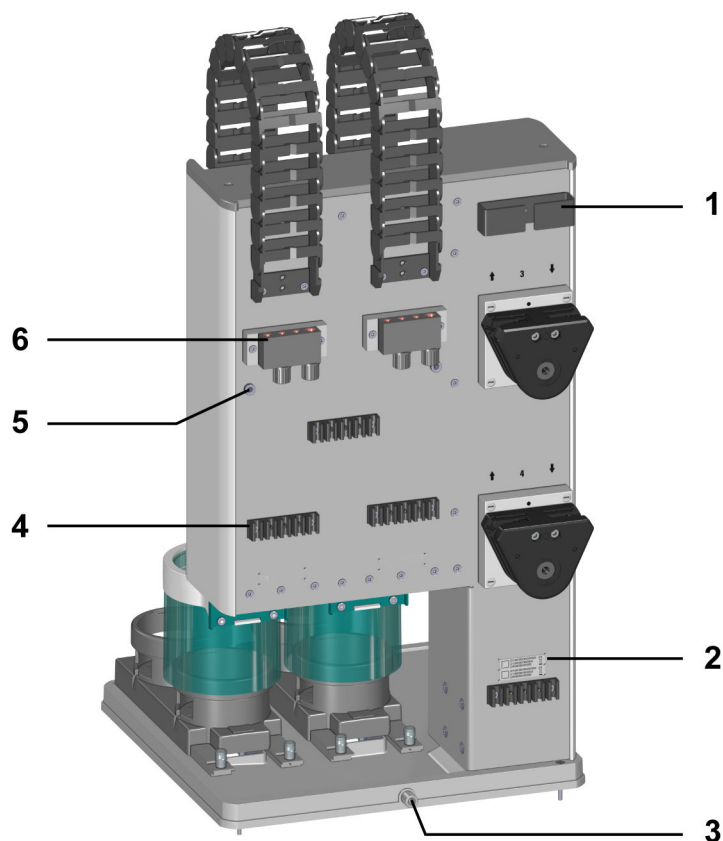

Figure 8 Rear – Workstation module
- In the case of the four-way version, 2 additional pumps are mounted at the rear (see figure 8, page 16) and numbered 3 and 4.